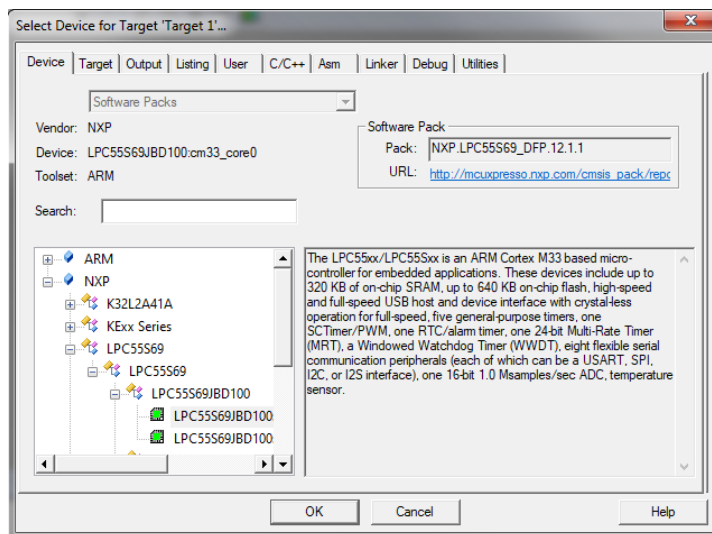

Figure 1-16. Select Device dialog
7. Click the LPC55s69 node, and then click OK. See Figure 1-16.